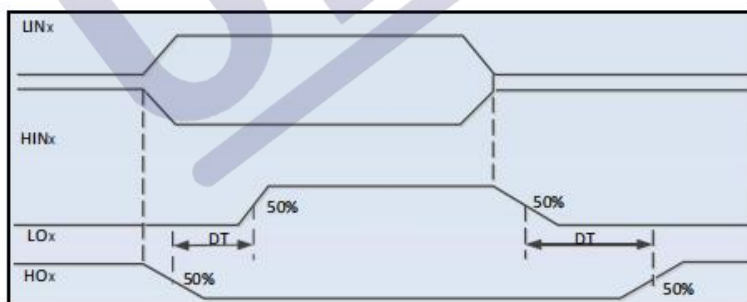

Figure. 4 Dead time protection
The U5316CT(CQ) features integrated fixed dead time protection circuitry. The dead time feature inserts a time period (a minimum dead time) in which both the high- and low-side power switches are held off. This is done to ensure that the power switch has fully turned off before the second power switch is turned on. This minimum dead time is automatically inserted whenever the external dead time is shorter than DT. External dead times larger than DT are not modified by the gate driver. Figure. 4 illustrates the dead time period and the relationship between the output gate signals.